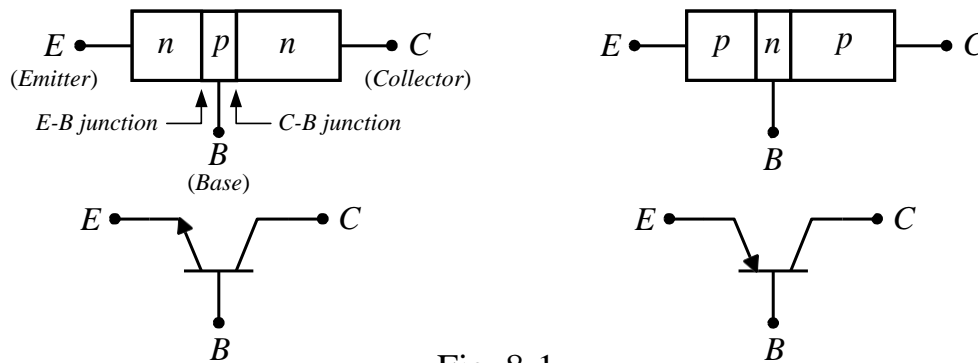

Fig. 8-1
The transistor is a three-layer semiconductor device consisting of either two n- and one p-type layers of material is called an npn transistor or two p- and one n-type layers of material is called a pnp transistor. Both (with symbols) are shown in Fig. 8-1. The middle region of each transistor type is called the base (B) of the transistor. Of the remaining two regions, one is called emitter (E) and the other is called the collector (C) of the transistor. For each transistor type, there are two junctions: emitter-base (E-B) junction and collector-base (C-B) junction. The outer layers of the transistor are heavily doped semiconductor materials having widths much greater than those of the sandwiched p- or n-type material (typically 10:1 or less). This lower doping level decreases the conductivity (increases the resistance) of this material by limiting the number of "free" carriers.